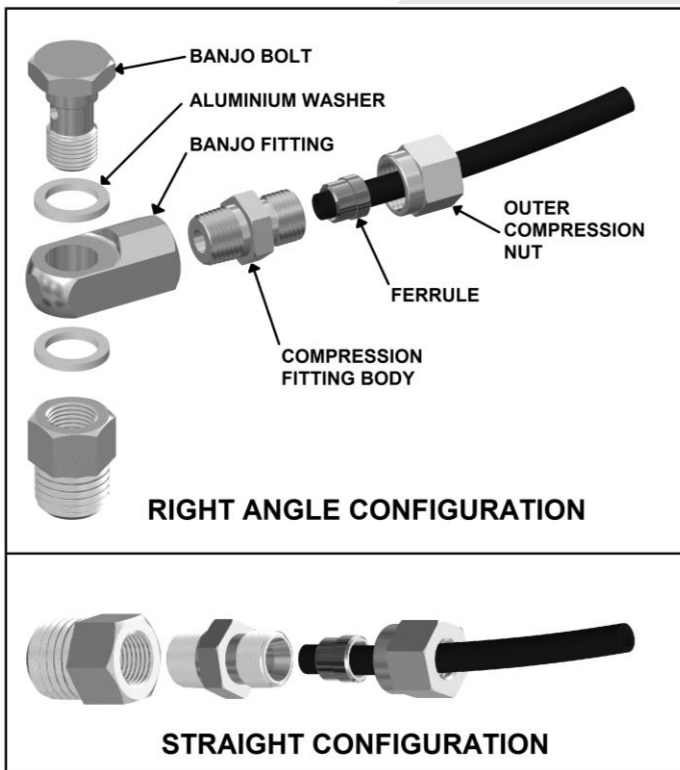

Figure 23.
- Assemble an aluminium washer onto the banjo bolt and insert through the banjo fitting. Assemble second aluminium washer and tighten into bulkhead fitting using a 14mm [9/16"] spanner. (Fig.23.)
- Insert the outer compression nut and ferrule over the air line. Ferrule should be orientated as per Fig.23.